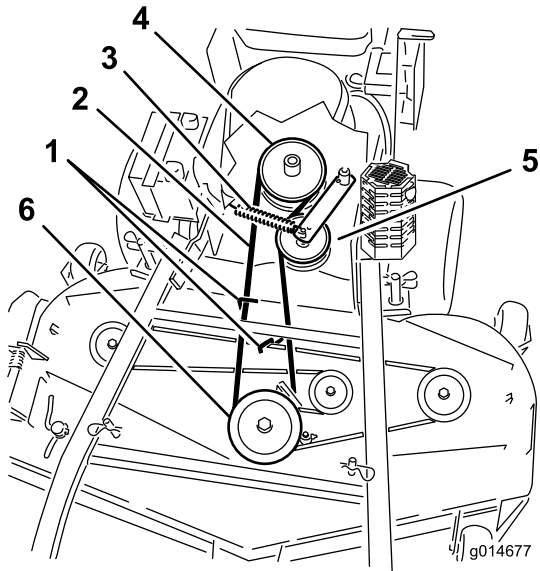

Figure 52
6. Roll the belt off of the center pulley on the mower deck (Figure 52).
7. Remove the belt from the engine pulley and the spring loaded idler pulley (Figure 52).
8. Install the new belt onto the engine pulley and spring loaded idler pulley (Figure 52).
9. Roll the belt onto the center pulley on the mower deck (Figure 52).
11. Adjust the belt guide an 3 mm (1/8 inch) from the belt for 48 inch mower decks (Figure 52).